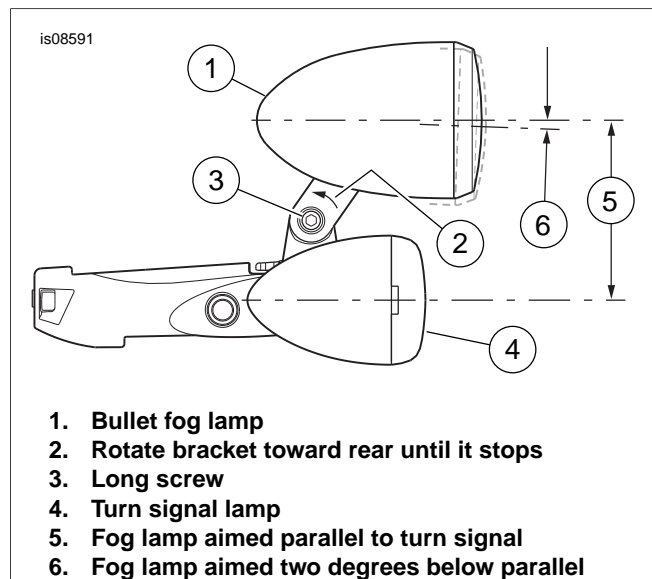

Figure 3. Fog Lamp Alignment
See Figure 3. Due to limited access to mounting screws, fog lamps (1) **MUST** be aligned before final installation.
fog lamp bracket toward the rear until it stops (see Figure 3, Item 2). Tighten screw and nut sufficiently to hold position.
9. See Figure 3. Align the fog lamp (1) parallel to the turn signal lamp (4). Tighten the fog lamp screw per fog lamp kit instructions.